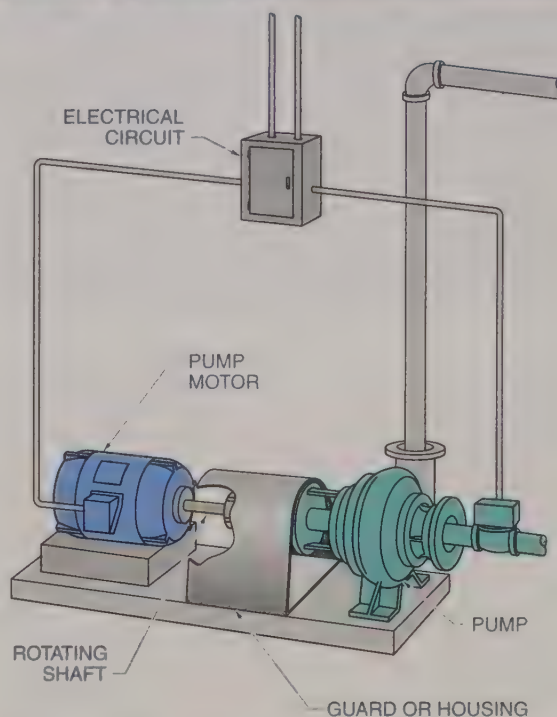

Figure 4-6. Motor guards or housings are used as protection from rotating parts of a motor or anything connected to the motor, such as the drive shaft.
- Ensure that guards or housings cover the rotating parts of a motor or anything connected to the motor. See Figure 4-6.